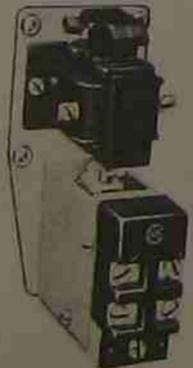

Figure 12-7 OFF Delay Timer (Courtesy of Allen-Bradley.)
For a pneumatic timer to time when power is removed from the relay coil (**OFF delay**), the solenoid unit is mounted as shown in Figure 12-7. With a spring holding the armature up, no weight is applied to the bellows assembly, and the bellows are filled with air in a fully extended position.
**Note:** Compare Figure 12-4 (the ON delay) with Figure 12-7 (the OFF delay) to clearly see the difference in the mounting of the solenoid assemblies.